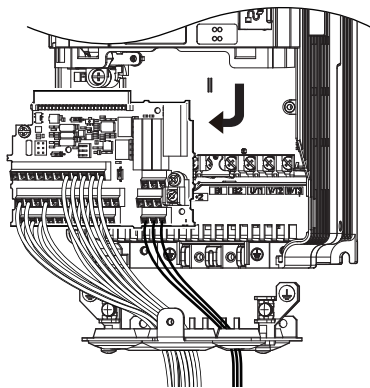

Figure 7.69 Remove the Terminal Board
- Slide the terminal board as illustrated by the arrows in Figure 7.69 to remove it from the drive along with the bottom cover.